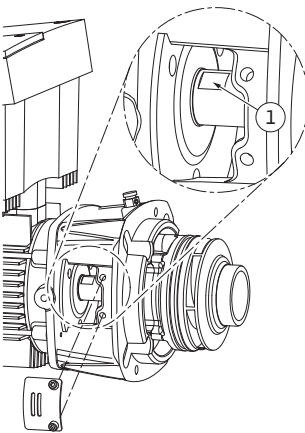

Fig. 48: Wrench surfaces on the shaft
15. Put an open-end wrench (0.9 in/22 mm is the best size) into the lantern window and hold the shaft steady with the wrench surfaces (Fig. 48, Item 1). Unscrew the impeller nut (Fig. 7, Item 15). The impeller (Fig. 7, Item 16) is automatically pulled off the shaft.
24. During the assembly of the impeller, put an open-end wrench (0.9 in/22 mm is the best size) into the lantern window and hold the shaft steady with the wrench surfaces (Fig. 48, Item 1).